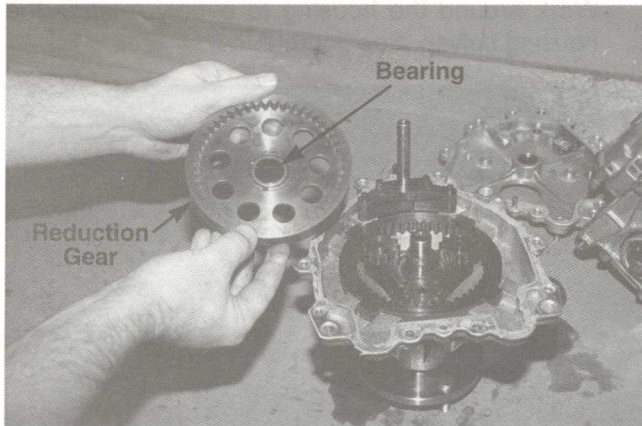

FIGURE 9.
9. Remove the reduction gear and inspect for missing teeth or irregular wear patterns. See figure 9.